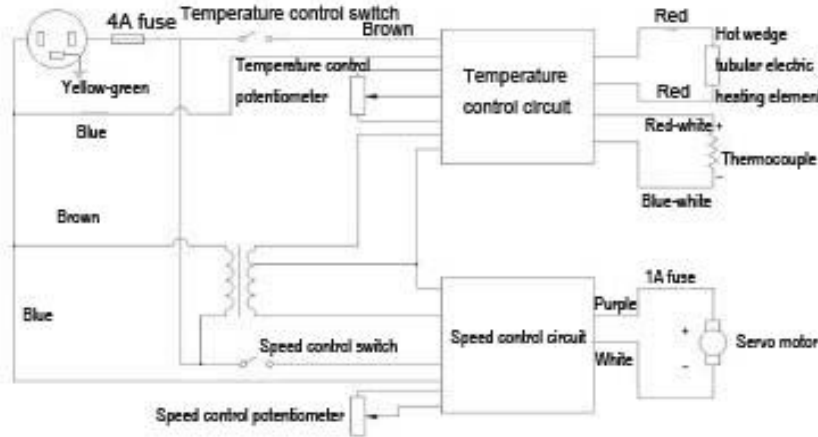

Fig.9 Control schematic diagram
7. Control schematic diagram and motor wiring diagram (Fig.9 &